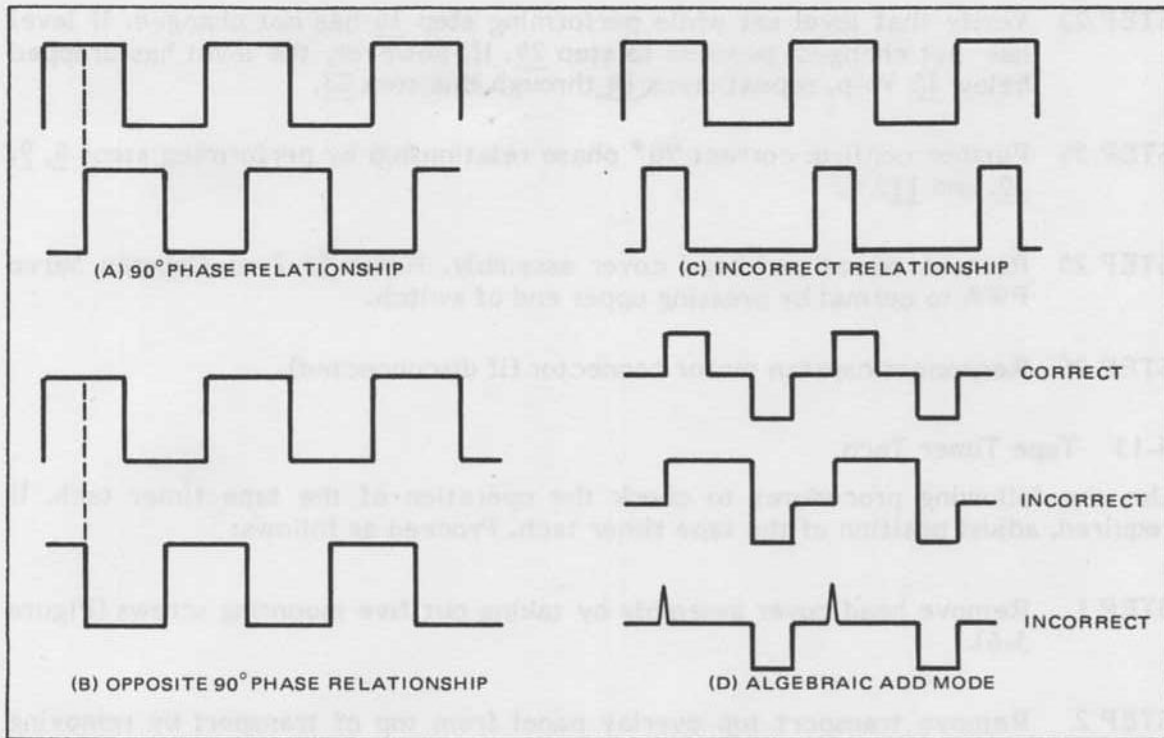

Figure 5-7. Tach 2 and Tach 1 Waveforms, Capstan Servo/Transport Control PWA
- STEP 7 The two signals should be 90° out of phase (Figure 5-7).
If scope chop rate is too slow to observe the phase relationship, switch scope to algebraic add mode to observe the waveform (Figure 5-7). The waveform shelves and spaces should be stable and not disappear or close.
- STEP 18 Carefully move adjustment pin a very small amount radially (only) from the capstan to obtain a 90° phase difference between the two signals (Figure 5-7).